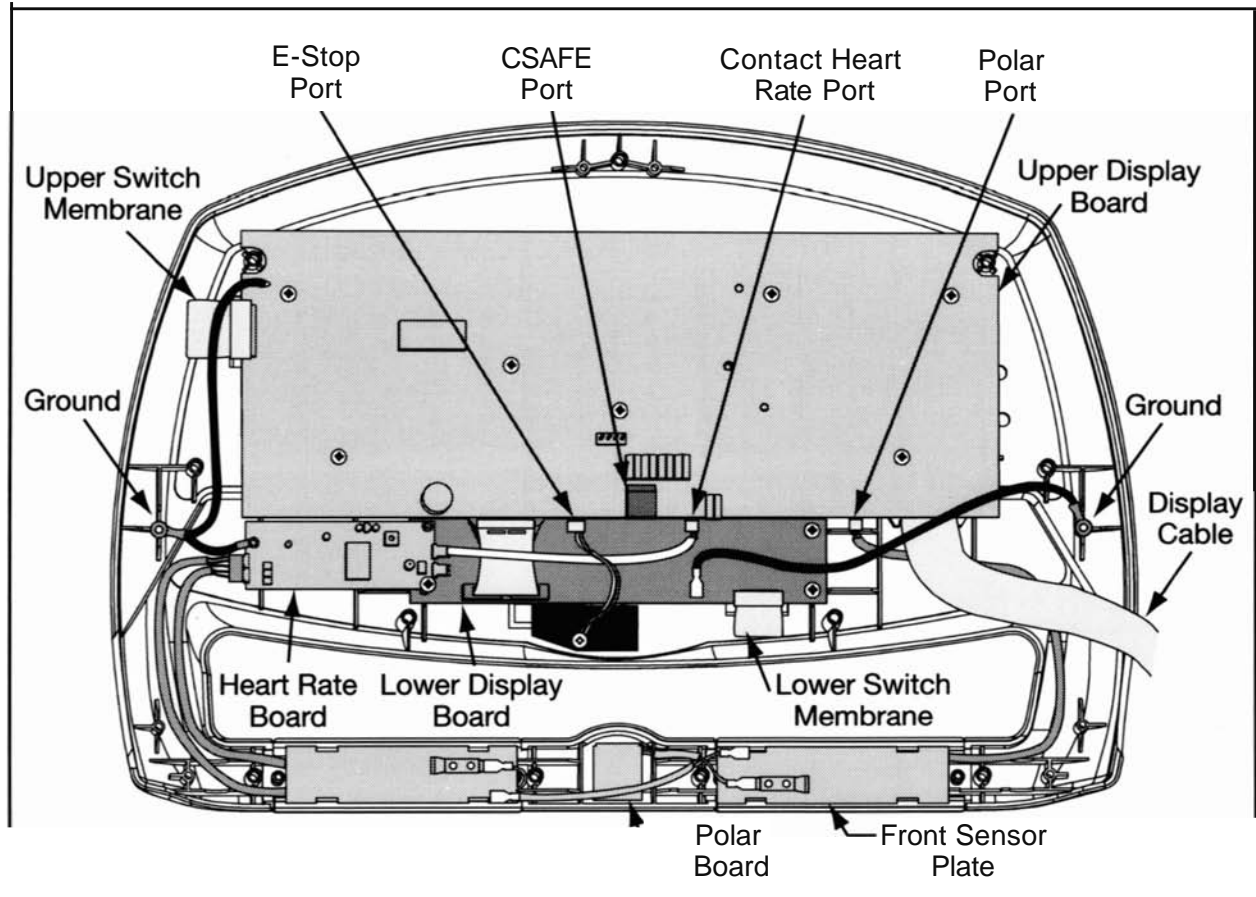

Figure 16
- A. Disconnect all seven cables from the display board (also, the CSAFE connector if applicable). See Figure 16.
- A. Place the display board in position on the console front. Attach the display board with the seven Phillips head screws that hold the board to the console. See Figure 16.
- A. Connect all seven cables from the display board (and the CSAFE connector if applicable). See Figure 16.
3. Remove the heart rate board. See Figure 16.
- B. Connect the fast-on cable, ribbon cable and flextail connector to the lower display board. See Figure 16.
- A. Remove the front sensor plate. There is no hardware holding it in. See Figure 16.
- A. Connect the Polar cable into its port on the upper display board. Arrange the cable as shown in the illustration. Place the Polar board in position. See Figure 16.
- B. Place the front sensor plate in its position over the Polar cable. There is no hardware holding it in. See Figure 16.